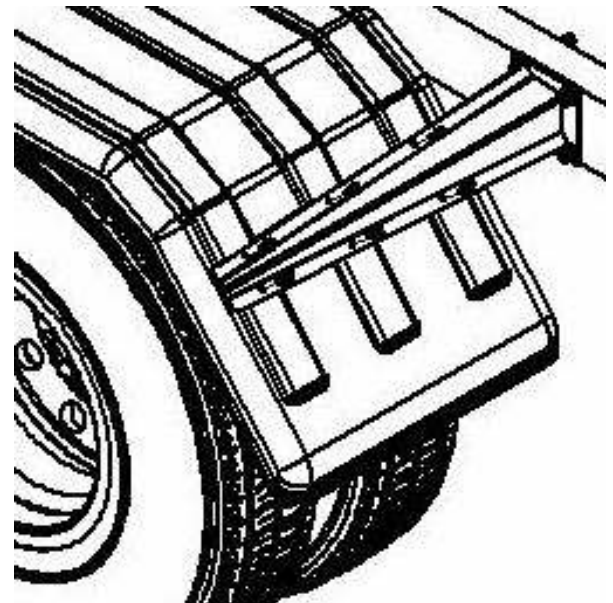

Figure 10
- Make sure the fenders are square and aligned (Figure 10). Twists or bows in the fender will fatigue the material over time.